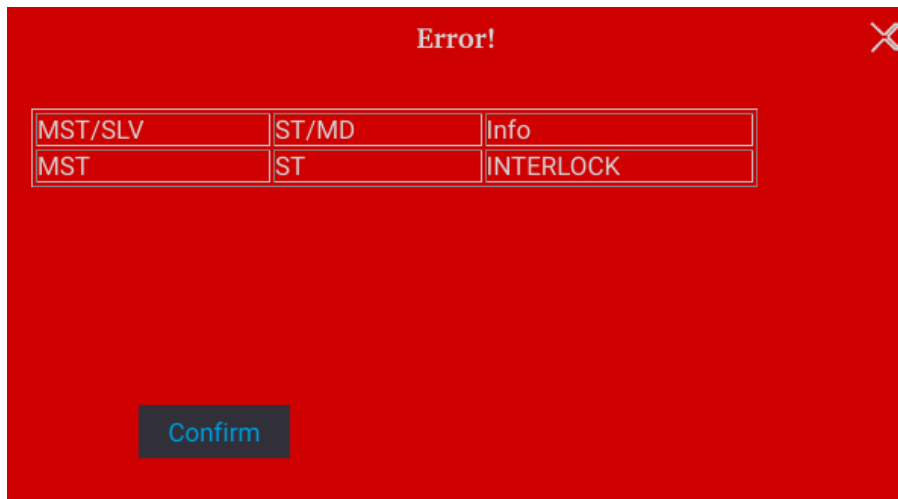

Figure 3-25
- When protection occurs to Safety Interlock the main page will show this protection message as Figure 3-25 shows.